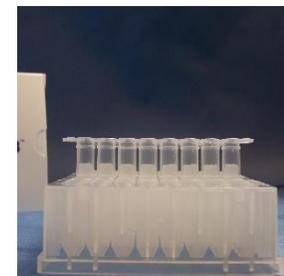

Fig 6
5.0 After centrifugation, the gel should be packed into the column and is ready to accept the sample (Fig 6)